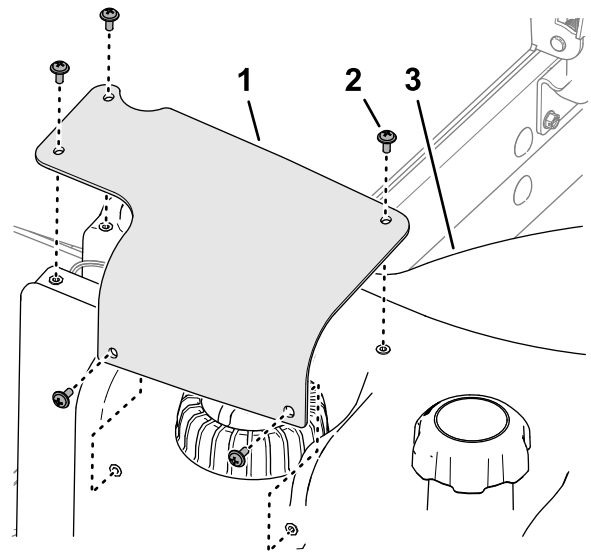

Figure 82
2. Remove the 5 Phillips-head screws that secure the fuel-sender cover to the fuel tank, and remove the cover (Figure 82).